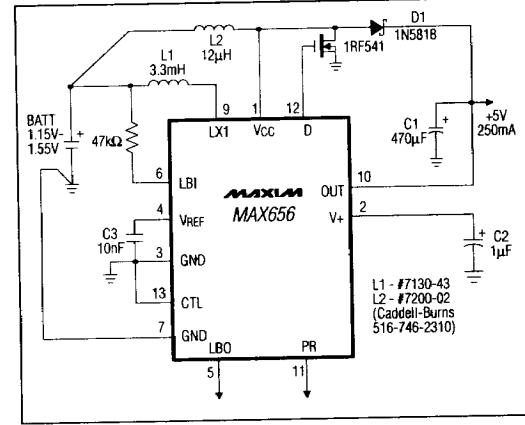

Figure 4. MAX656 Typical Application
MAX657/659). It is connected to the OUT pin which is the feedback input in high-power mode. Figure 4 shows a similar circuit with the MAX656 using an external FET for higher power output.
* Coils are from Caddell-Burns Co. NY (516) 746-2310. Inductance (μ H) is the MINIMUM allowed for the listed battery voltage range (Battery Voltage: MIN, MAX). Lower values are not recommended, except when using the MAX656/658 converters since they use an external MOSFET. If less current than listed in the Output column is required, a higher inductance coil will reduce losses. The optimum inductance varies inversely with required output current if all other conditions are unchanged. For example, refer to line 3 and the 10mA output. 120 μ H supplies this current more efficiently than the 39 μ H coil of line 2. L2 may also be calculated using the equations in the Inductor Selection Section.
** These MAX656 circuits (see Figure 4) use an IRF541 as an external current switch. Peak switch current is typically 3.5A.